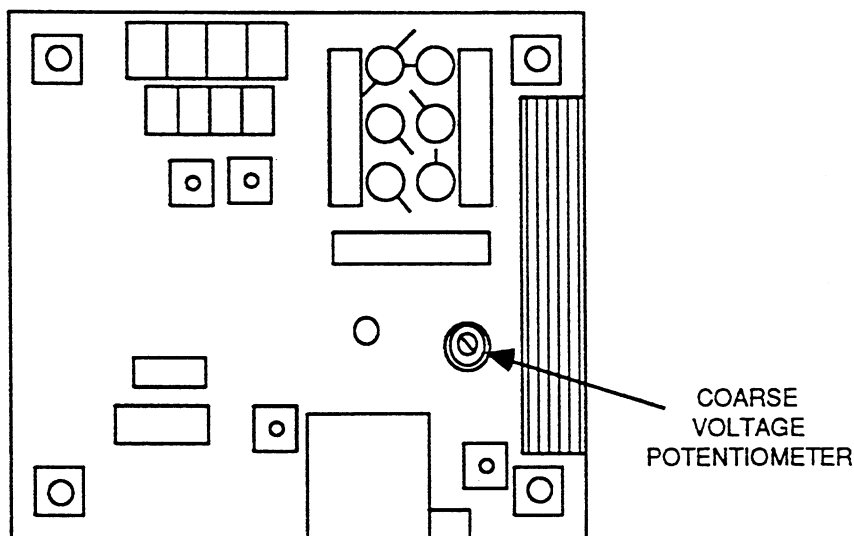

FIGURE 21. VOLTAGE REGULATOR
3. With the generator set operating, and the voltage being monitored (either by meters on the set or with remote metering), adjust voltage regulator board Coarse Voltage Potentiometer (see Figure 21) to the desired generator voltage.